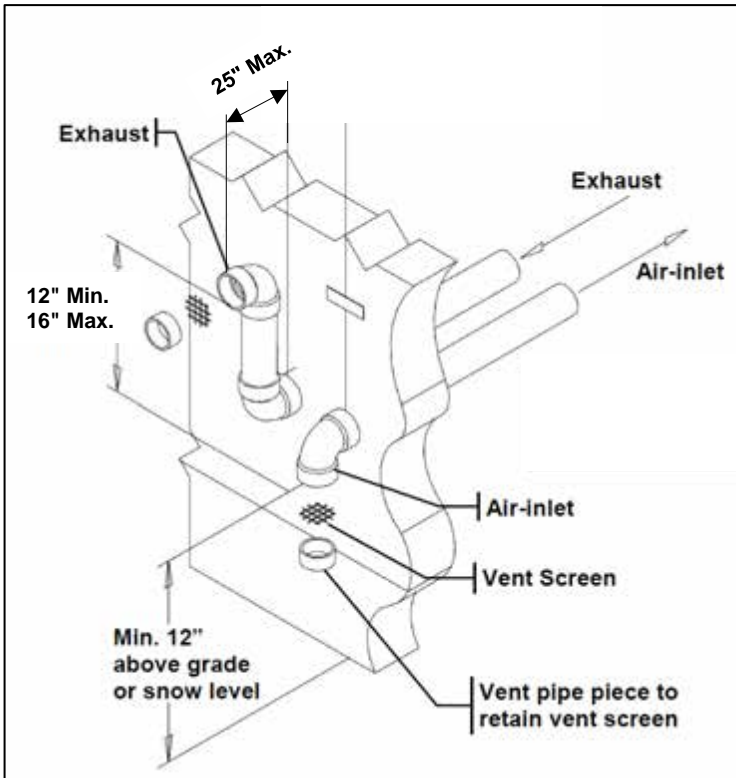

Figure 9-11
3. When using two pipe terminations the air intake piping must terminate in a down-turned elbow as shown in Figure 9-11 and 9-12. This arrangement avoids recirculation of flue products into the combustion air stream.
4. The exhaust piping must terminate horizontally in a section of straight pipe or an elbow pointed outward or away from the air inlet, as shown in Figure 9-11 or 9-12